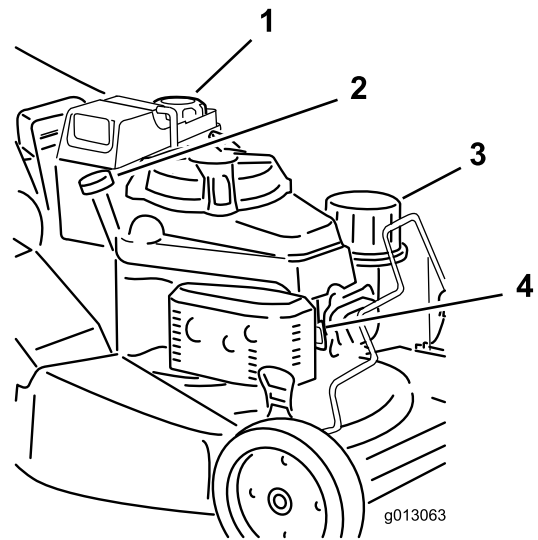

Figure 12
1. Clean around the fuel tank cap (Figure 12).
1. Connect the wire to the spark plug (Figure 12).